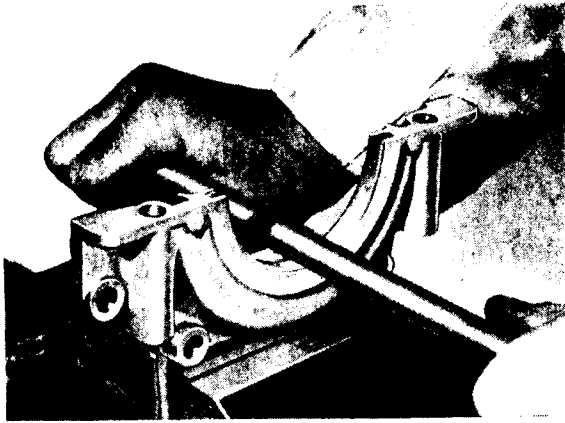

Fig. H.8. Rolling in Rear Main Oil Seal.
2. With the thumb or finger press the remainder of the strip into the groove working from the centre. Use a round bar to further bed in the strip by rolling and pressing its inner diameter (Fig. H.8).